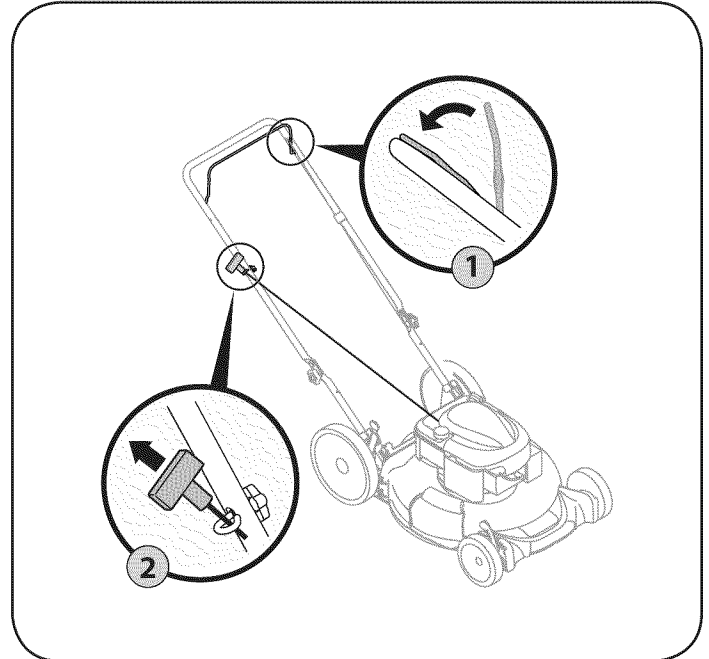

Figure 12
1. Standing behind the mower, squeeze the blade control handle against upper handle. See Figure 12.
2. Holding these two handles together firmly, grasp recoil starter handle and pull rope slowly until resistance is felt, then pull with a rapid, continuous, full arm stroke. See Figure 12. Keeping a firm grip on the starter cord handle, let the rope rewind slowly. Repeat until engine cranks. Let the rope rewind each time slowly.